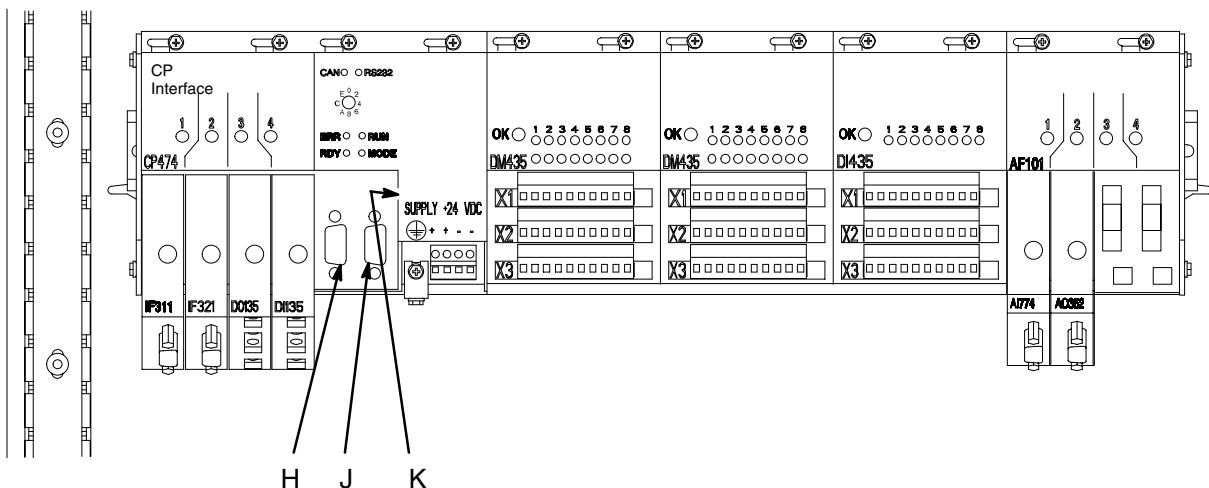

Fig. 11.2
3. To have access to the battery door, disconnect the cables from the Controller communications ports, CAN (H) and RS232 (J). See Fig. 11.2.
5. Remove the battery door (K). Pull lightly on the battery ribbon until the battery pops out of the slot.
6. Install the new battery (part no. 114836) into the battery slot, with the ribbon underneath the battery. Install the battery door (K).